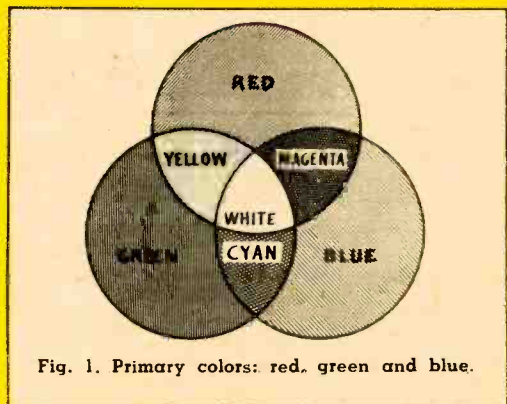

Fig. 1. Primary colors: red, green and blue.
Figure 1 shows how the combining of primaries works, with all light coming from three sources, one for red, one for green,
Fig. 1—Mount parts shown at right in the U-section of a 8x6x3½-inch Minibox before installing the circuit board (dotted lines). For cooling purposes Q1 must be mounted on the back panel. Be sure to use the mounting kit specified in the parts list to electrically insulate Q1's case (collector) from the cabinet. Lug at the right of Q1 (C) must not touch cabinet. R12 shown was wound by author but a commercially available resistor has been specified in the Parts List.